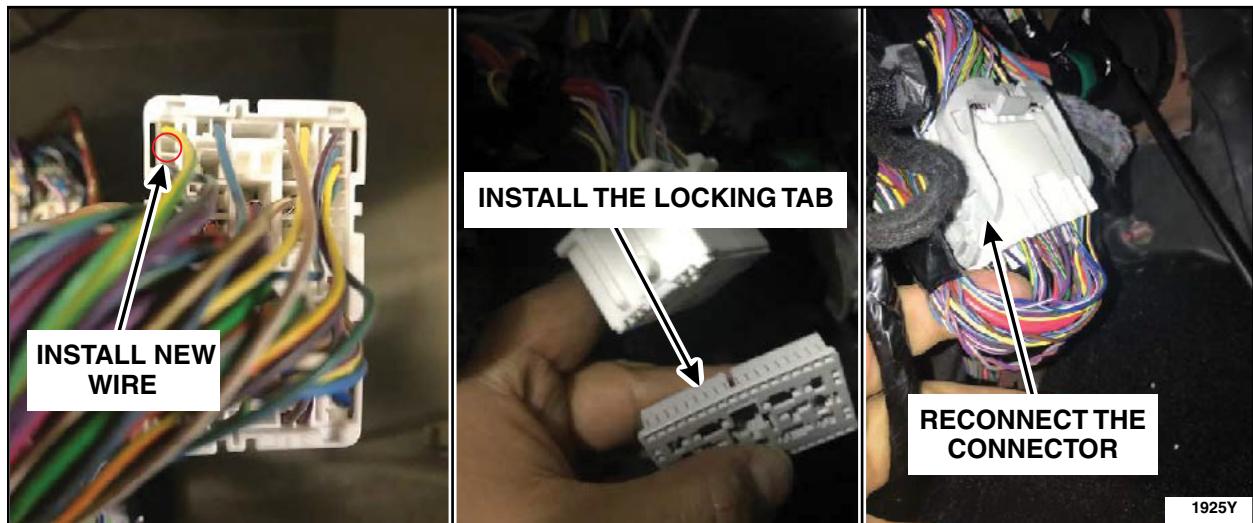

FIGURE 26
28. Install the violet/white wire into cavity pin number 17, install the locking tab and reconnect the connector. See Figure 26.